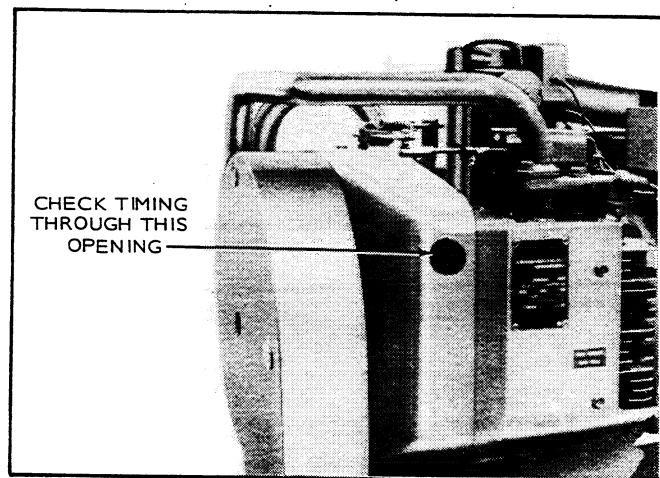

FIGURE 16. TIMING ACCESS HOLE
2. Remove the plug from the timing hole (Figure 16).